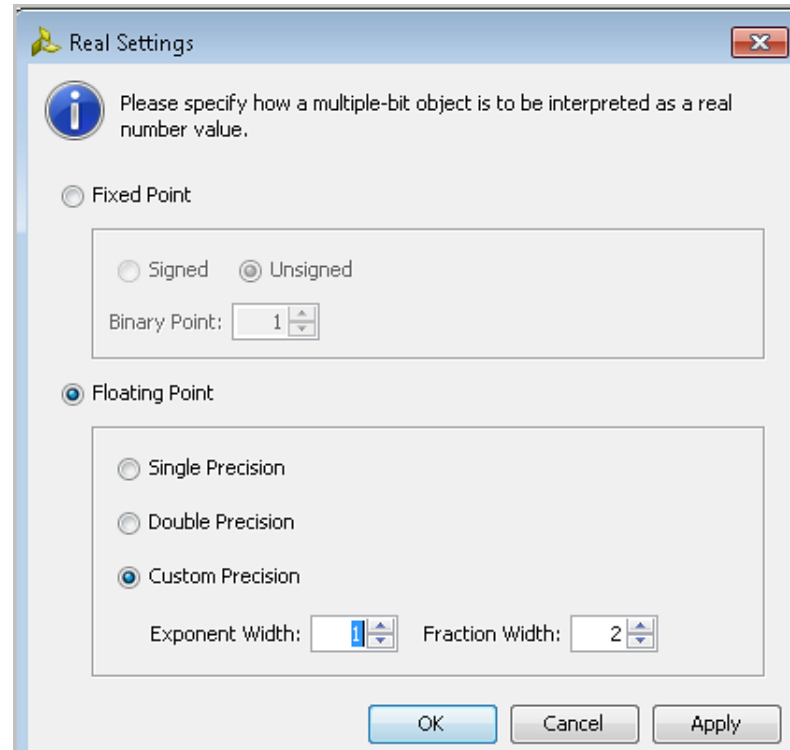

Figure 4-5: Real Settings Dialog Box
1. Open the Real Settings dialog box, shown in Figure 4-5, page 71.